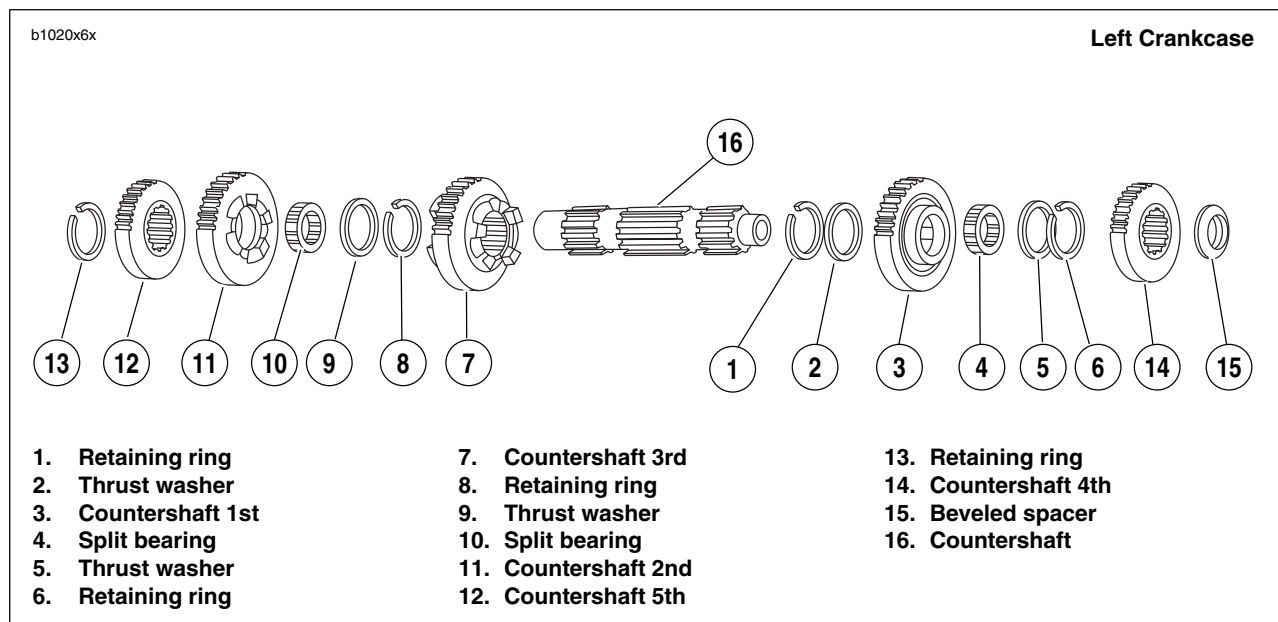

Figure 6-69. Transmission Countershaft Assembly/Reassembly
1. See Figure 6-69. Install **new** retaining ring (1) and thrust washer (2) onto countershaft in the second ring groove from the end with internal threads.
2. Install split bearing (4) onto countershaft.
3. Locate countershaft 1st gear (3), identified by one radial groove at one side, and slide gear onto shaft. Position gear over bearing (4).
4. Install thrust washer (5) and **new** retaining ring (6) next to countershaft 1st gear (3).
5. Install countershaft 3rd gear (7) on countershaft with fork groove facing away from countershaft 1st gear (3).
6. Install **new** retaining ring (8) on countershaft. Position **new** retaining ring in the second ring groove from the end. Install thrust washer (9) next to retaining ring (8). Install split bearing (10) in seat next to washer (9).